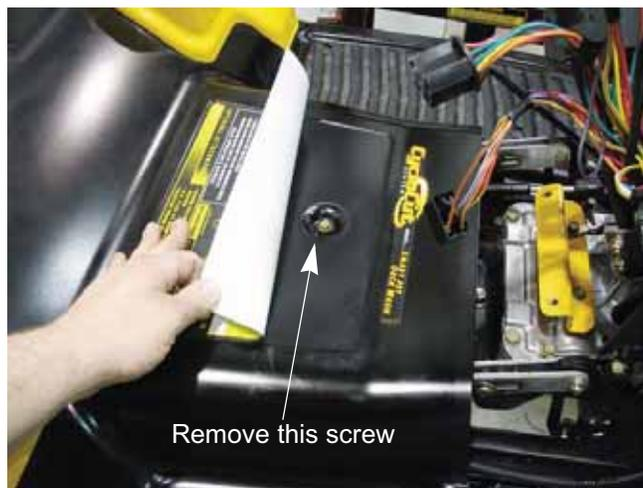

Figure 4.17
7. Remove the screw from the center of the fender. See Figure 4.17.